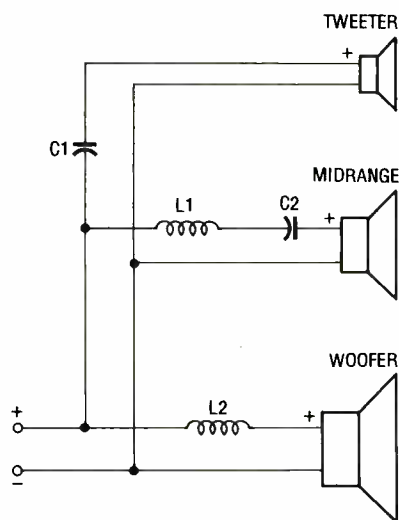

Fig. 9. This three-way first-order crossover can greatly enhance the sound quality of a speaker system.
**Adding a Midrange.** We could add a midrange speaker to our system, using another coil and capacitor as shown in Fig. 9. The additional components form a band-pass filter. The values of the components can be determined from: